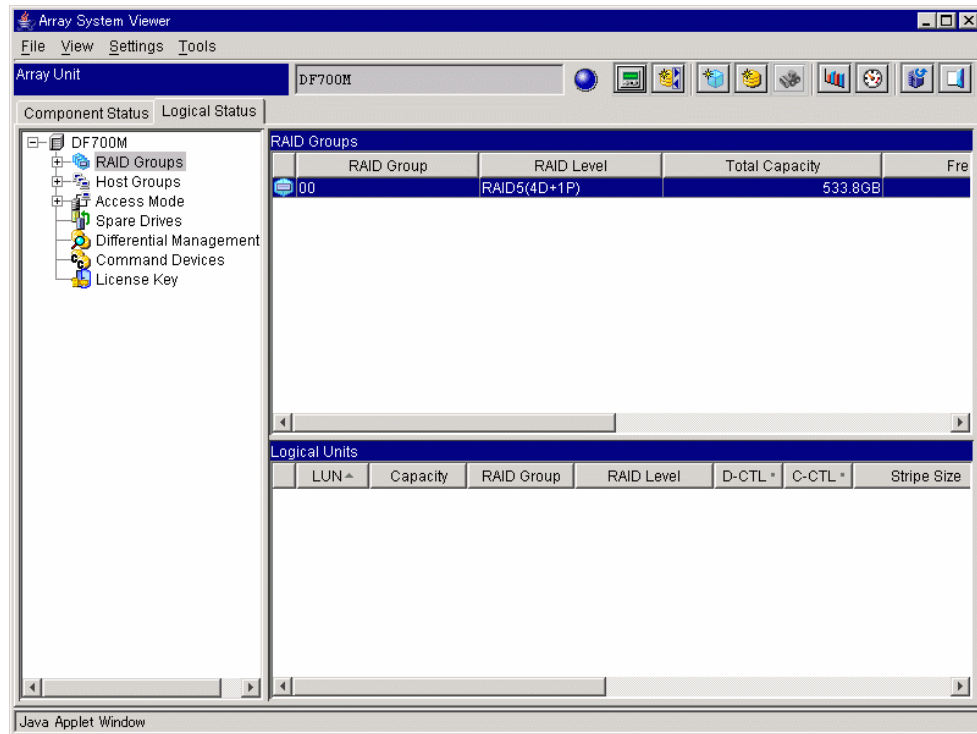

Figure 5.10 Array System Viewer - RAID Group
3. On the **Settings** menu of the Array System Viewer, select **RAID Group** and click **Delete**. See Figure 5.10.